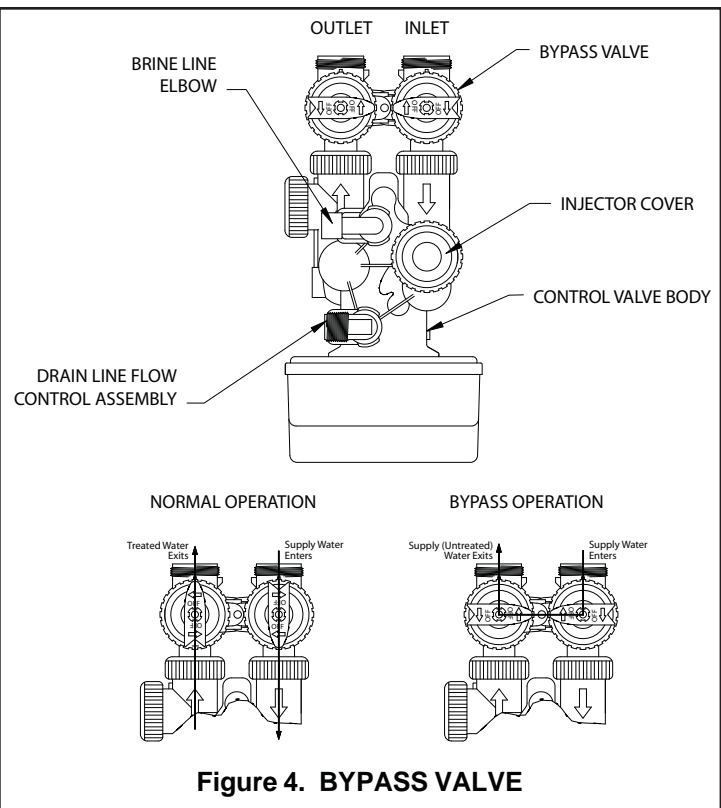

Figure 4. BYPASS VALVE
Step 14) Partially open the inlet knob on bypass valve (Figure 4). This will allow the unit to fill slowly from the bottom up, reducing air entrapment. Allow the unit to fill slowly, failure to do so could result in loss of resin to the drain. Once a steady stream of water, with no air sputtering, is flowing to the drain, the inlet and outlet bypass knobs can be fully opened (refer to Figure 4).